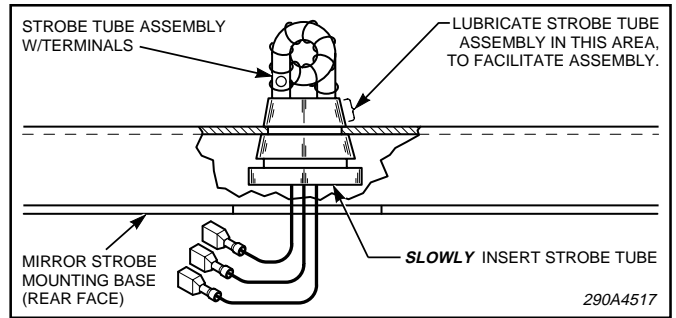

Figure 6.
e. See figure 6. SLOWLY insert the new strobe tube in the mounting bar until it is properly seated in the top slot of the strobe tube. If the strobe tube is difficult to insert, remove it and apply a high temperature grease, or Vaseline, to the rubber edge of the strobe tube and try again.